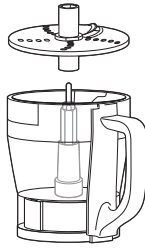

Fig. 8
- 5 Hold the disc by the plastic hub and carefully place the shredding/slicing disc onto the spindle. (Fig. 8)